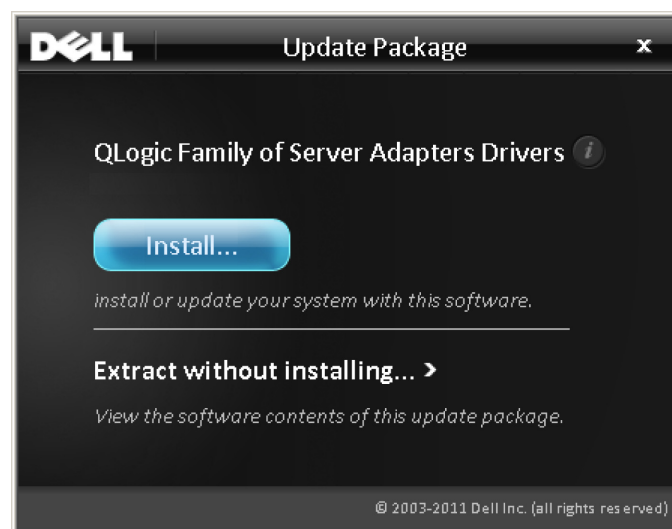

Figure 2-1. Dell Update Package Window
2. In the Dell Update Package window (Figure 2-1), click **Install**.